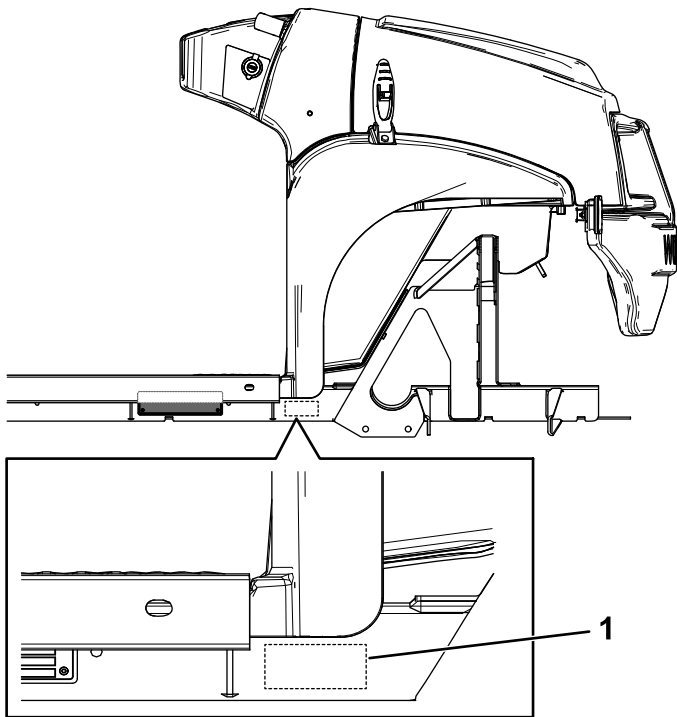

Figure 7
- Stamp the serial number on the machine in the location shown in Figure 7.